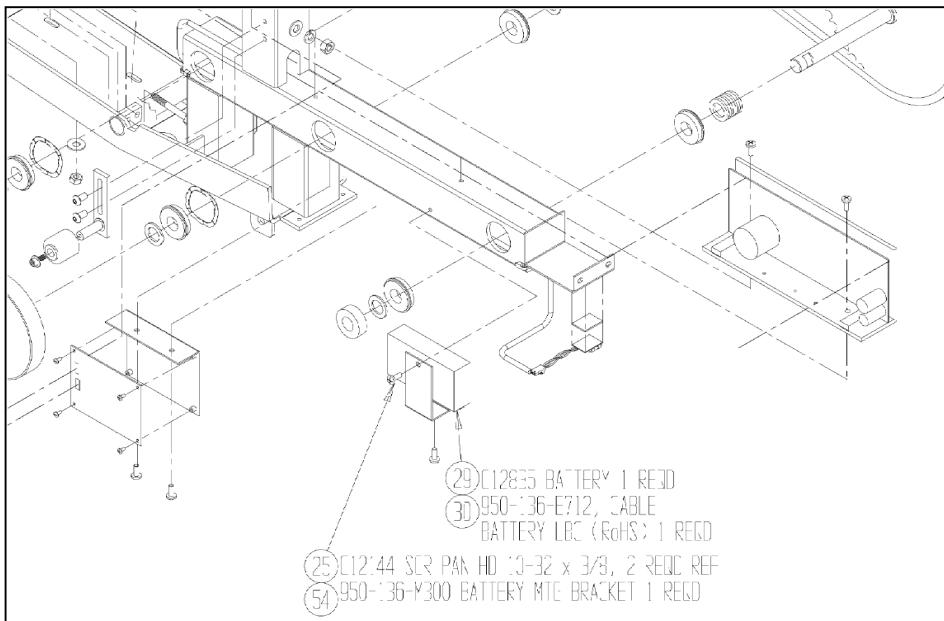

Figure 4. Replacing the battery.
(See Figure 4.)
2. Remove the arm cranks (refer to Figure 4) so the covers can be removed. To do this, remove the hex nut at the hub of each crank, drive the cotter pin through and discard. Replacement part number for the cotter pin is #C08602. Do not re-use cotter pin.